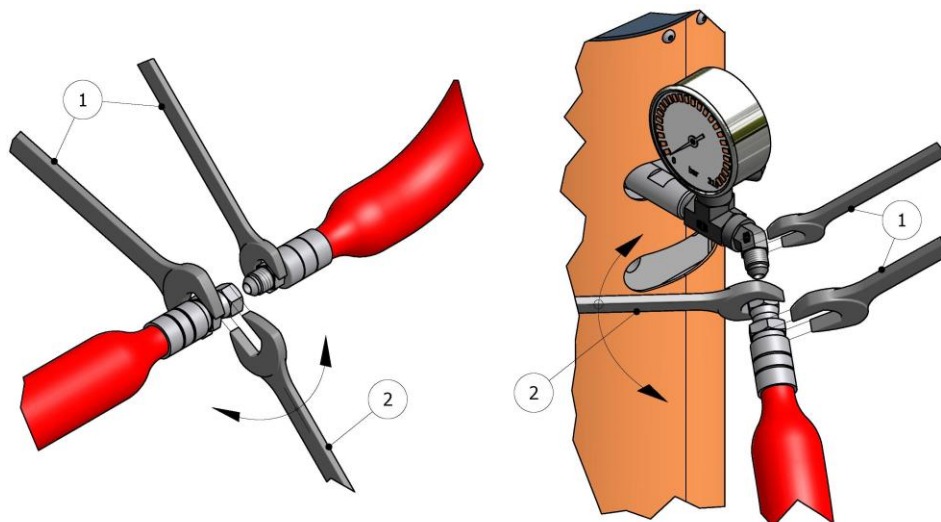

Figure 3. Method of union of the Hoses
WARNING! To join the hoses together or to connect them to the heaters or the gun, use two spanners to hold the parts to be joined (1) and a third spanner to tighten or loosen the connecting nut (2) as shown in the illustrations in Figure 3 on page 20. The connections must be tightened to a torque of Table 1 in pg. 18.